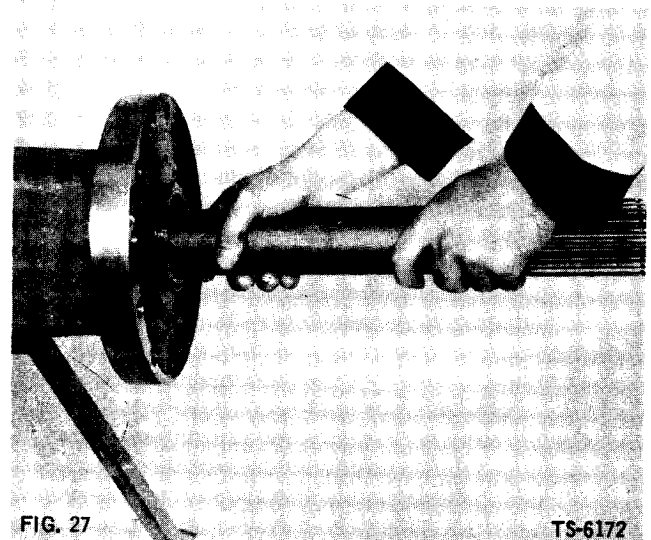

FIG. 27
27. Remove axle shaft from axle housing (Fig. 27).